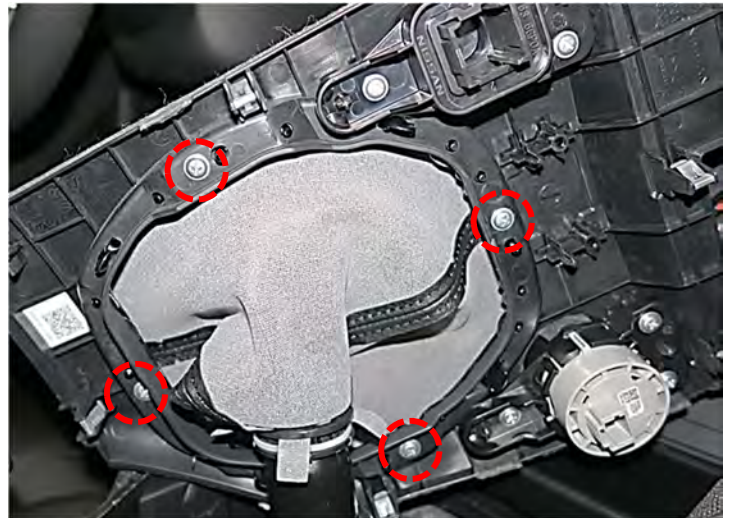

Figure 141
- Lift the shifter finisher upward and install the (4) screws shown in Figure 141